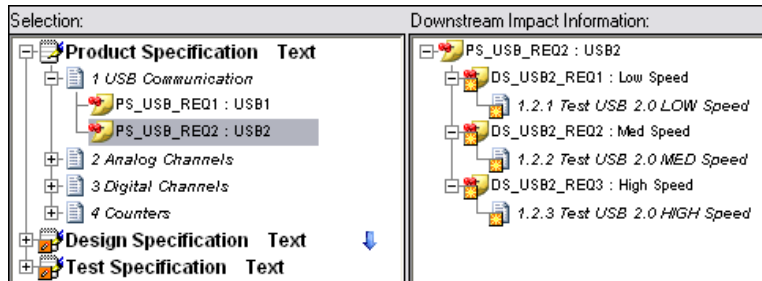

Figure 3-13. PS_USB_REQ2 Downstream Impact Analysis
- Select the **PS_USB_REQ2** requirement. The Downstream Impact Information column displays the non-derived requirements from the covering Design Specification document and the sections from the Test Specification document that cover the non-derived requirements, as shown in Figure 3-13.